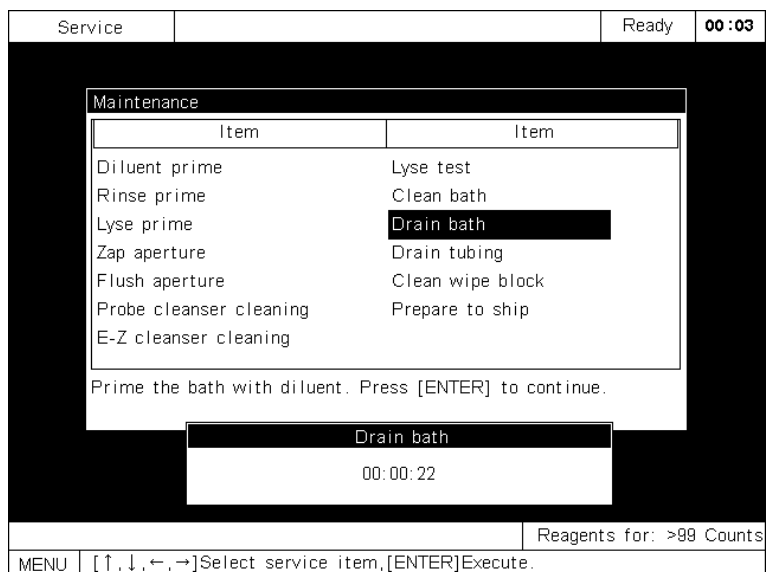

Figure 8-13 Drain Bath
- When the bath is drained, the screen displays Prime the bath with diluent, as Figure 8-13 shows. Press [ENTER] to continue and when the priming is done, the screen returns to the initial state.